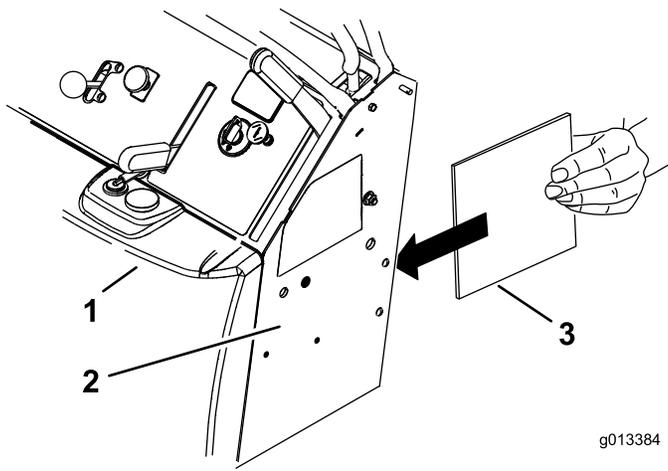

Figure 3
2. Place a piece of metal between the fuel tank and the left side of the machine. This will prevent the drill bit from drilling into the fuel tank (Figure 3).